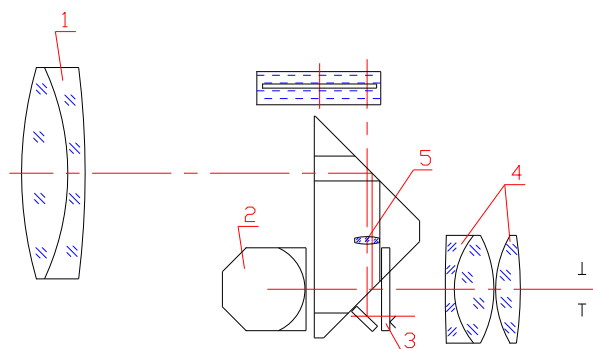

Fig 1
Basic binoculars optical construction, as shown in figure 1, consist of (1) the objective lens, (2) the Porroprisms, (3)the reticle and (4)the eyepiece. The reticle (3) and compass projective system (5) are built into the right half of the binoculars body.
The light from the object or target you are looking at enters the binoculars through the Objective lens system (item 1, fig. 1). Due to the objective lens, the rays are converged to a upside down image. Then the light rays of the image pass through the prism system (known as the Porroprism) (item 2, fig. 1) , and are reversed to erect image at the reticle(item 3, fig. 1) just as you see by eyes. This image is magnified by eyepieces (item 4, fig. 1), so that the observer can now see the distant object.